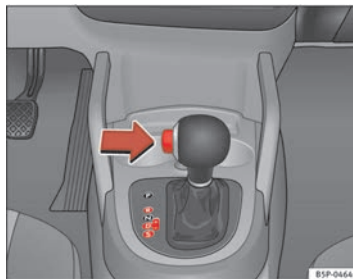

Fig. 146 Driving ▶
- Press on the button on the selector lever knob (on the left, ⇒ page 179, fig. 146).